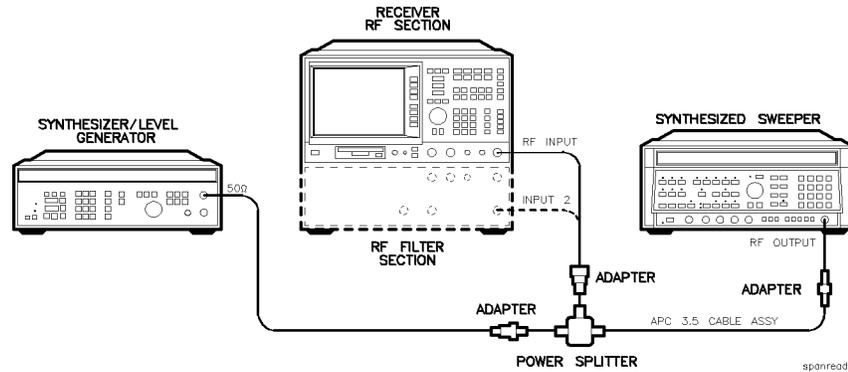

Figure 2-3.
1. Connect the equipment as shown in Figure 2-3. Note that the power splitter is used as a combiner.